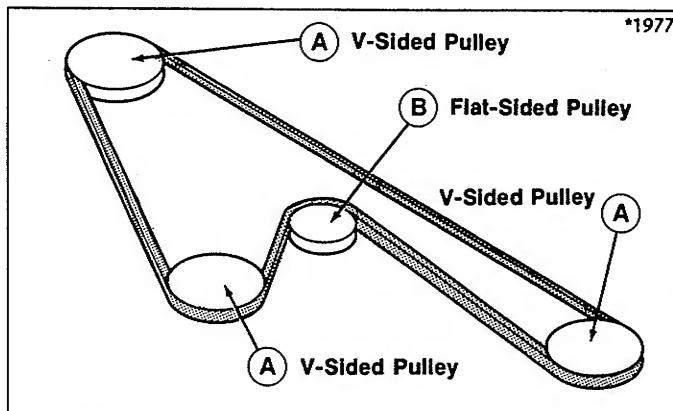

Figure 30.
- A. Self-Tapping Screw (RH)**
- F. Self-Tapping Screw (LH)**
6. Replace old belt with new belt as shown in figure 30. Make sure that V-side of belt runs in arbor pulley grooves and flat side of belt runs against idler pulley.